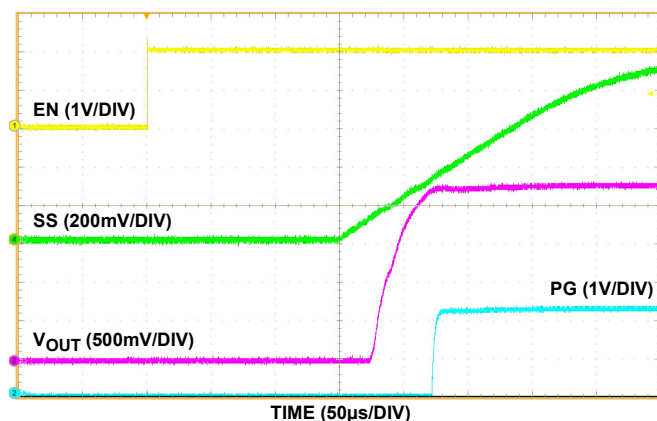

FIGURE 14. ENABLE START-UP SS CAP 1nF
If the current limit for inrush current is acceptable in the application, do not use the soft-start (SS) feature (leave the SS pin open). The soft-start circuit controls the rate at which the output voltage comes up to regulation at power-up or LDO enable. The external soft-start capacitor always gets discharged to ground pin potential at the beginning of start-up or enabling. After the capacitor discharges, it will immediately begin charging by a constant current source. The discharge rate is the RC time constant of R_{PD} and C_{SS} . Refer to Figures 14 through 18 in the “Typical Operating Performance Curves” beginning on page 8. R_{PD} is the ON-resistance of the pull-down MOSFET, M8. R_{PD} is typically 323Ω.